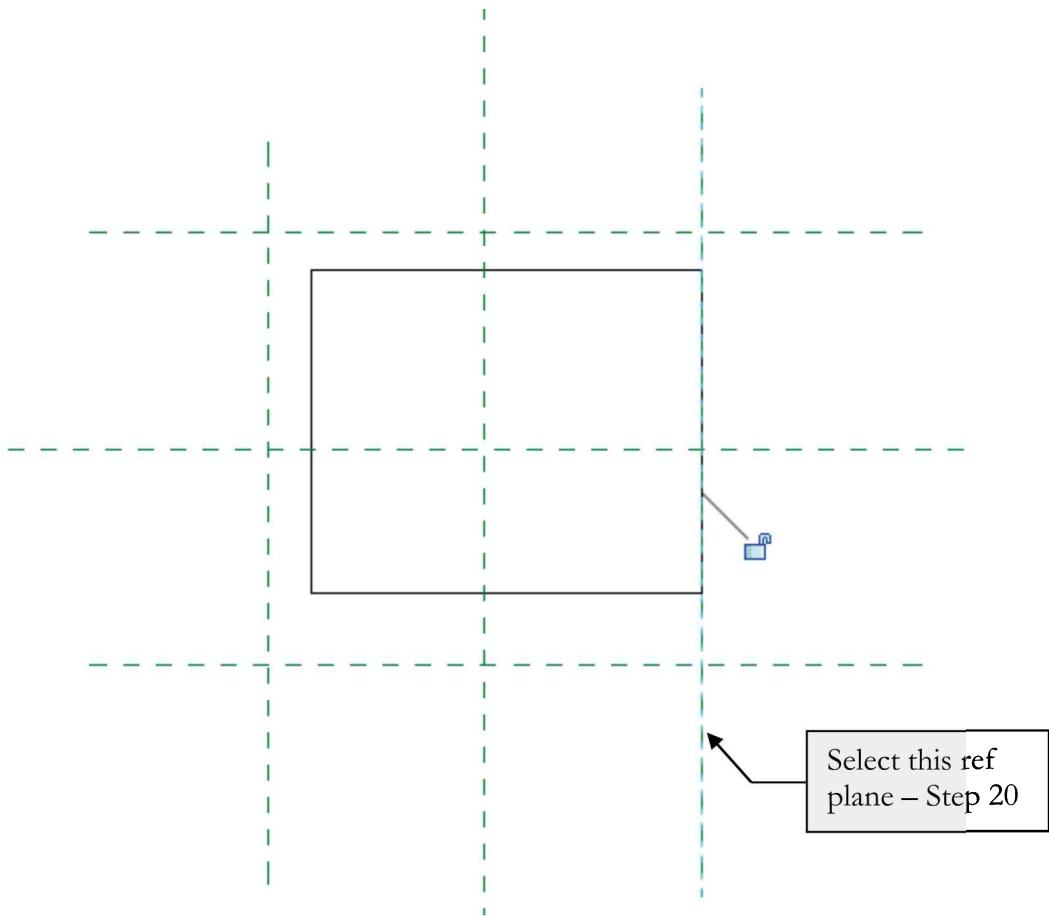

FIGURE 17-2.12 Aligning 3D geometry to reference planes
20. Select the vertical *Reference Plane* on the right (Figure 17-2.12).
The right side of the box should now be aligned with the *Reference Plane* (Figure 17-2.12). If the *Reference Plane* moved rather than the edge of the box, click **Undo**. When using the *Align* tool, the element that does not move is selected first.
- Figure 17-2.12 shows the icon in its initial position, unlocked.